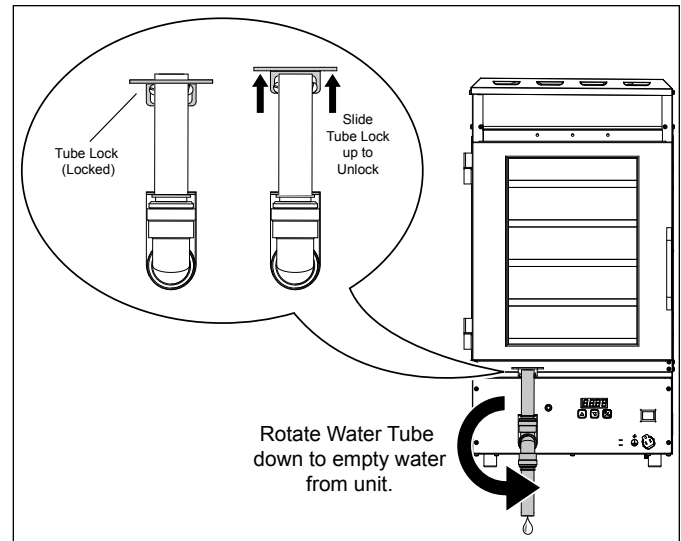

Figure 8. Draining Water from the Unit
3. Lift the Tube Lock (Figure 8). Rotate the Water Tube counterclockwise to drain the unit of water.